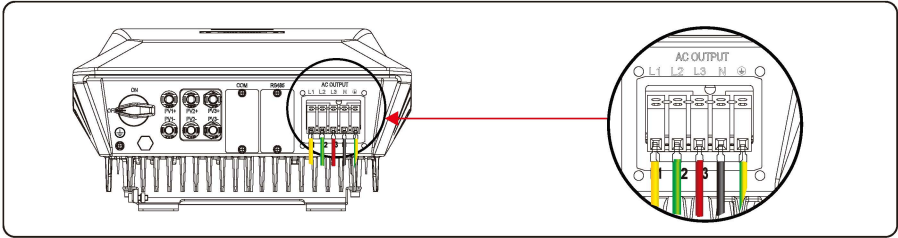

Figure 5.7 Tightening AC cable
Step 4 Connect the AC output cable to L1, L2, L3, N, and E on the AC terminal block, tighten them using screw driver and the required torque is 1.5 N·m, shown as in Figure 5.7.